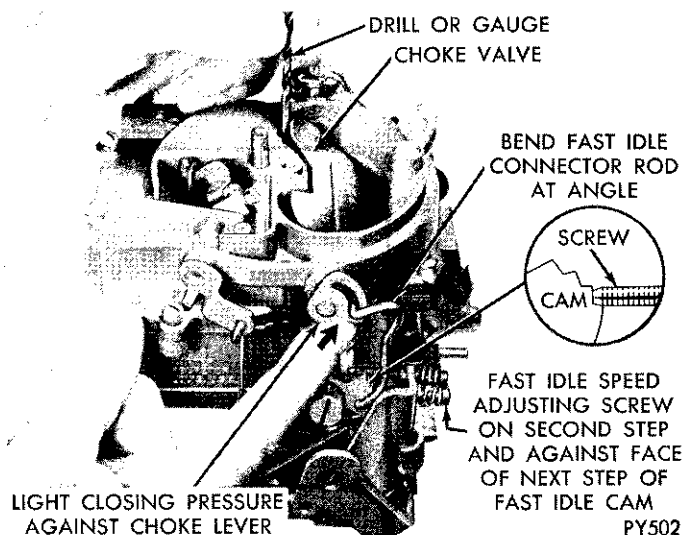

Fig. 12—Fast Idle Cam Position Adjustment
(1) With fast idle speed adjusting screw contacting second highest speed step on fast idle cam, move choke valve toward closed position with light pressure on choke shaft lever.
(2) Insert specified drill (see specifications) between choke valve and wall of air horn. An adjustment will be necessary if a slight drag is not obtained as drill is being removed.
(3) If an adjustment is necessary, bend fast idle connector rod at lower angle, using Tool T109-213, until correct valve opening has been obtained (Fig. 12).